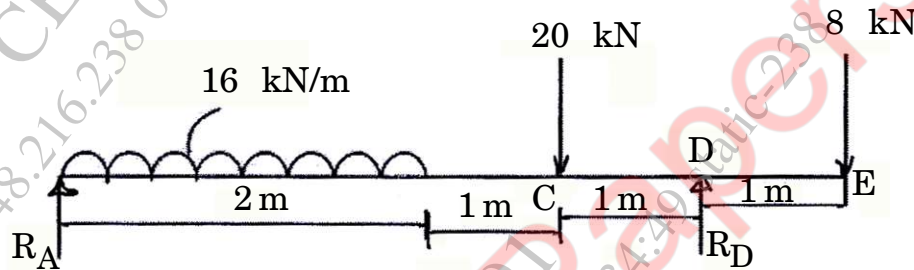

Fig. 6.1
6. (a) An overhang beam ABCDE is supported at A and D. DE = 1 m overhang BC = CD = 1 m, AB = 2 m. Position AB is subjected to UDL 16 kN/m. At C a point load of 20 kN is acting. At E a point load 8 kN is acting. Draw SFD and BMD. Locate point of contraflexure. Calculate maximum Bending moment. Refer figure 6.1. [7]